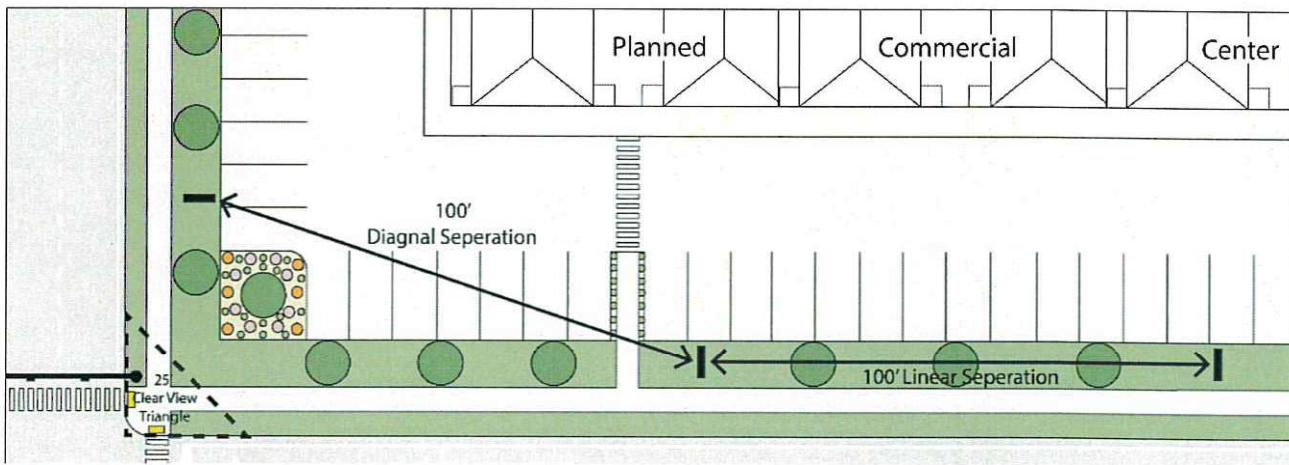

Figure 13
6. The base of a monument sign shall be a minimum of one (1) foot in height, and shall be constructed of materials and colors that match the building or use. The base shall run the entire horizontal length of the sign and shall contain no sign copy. The base shall be designed to blend in with any proposed berthing or contouring of the property.
8. The sign area of a monument sign shall not exceed fifty (50) square feet.
9. Planned commercial centers, pad buildings, and buildings not associated with a planned commercial center are allowed a monument sign on each associated street frontage. However, the signs must be separated by at least 100 feet as measured diagonally across the property from center to center of both signs and shall be no closer than 100 feet to any other sign (monument, pylon, pole) located on the same frontage (*See Figure 13*).